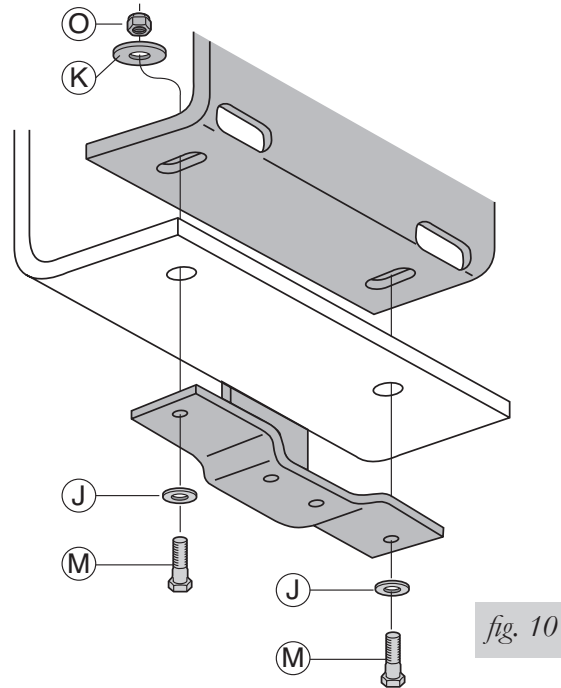

fig. 10
2. Install the frame brace (F) with the access holes toward the bottom of the frame rail. This is a tight fit and may require tapping with a hammer or mallet.
4. Install a bolt (M), flat washer (J), oversized flat washer (K), and a lock nut (O). Hold the lock nut with a 9/16" open end wrench through the access hole and tighten the bolt to 44 ft-lbs. Repeat for other mounting hole (Figure 10).